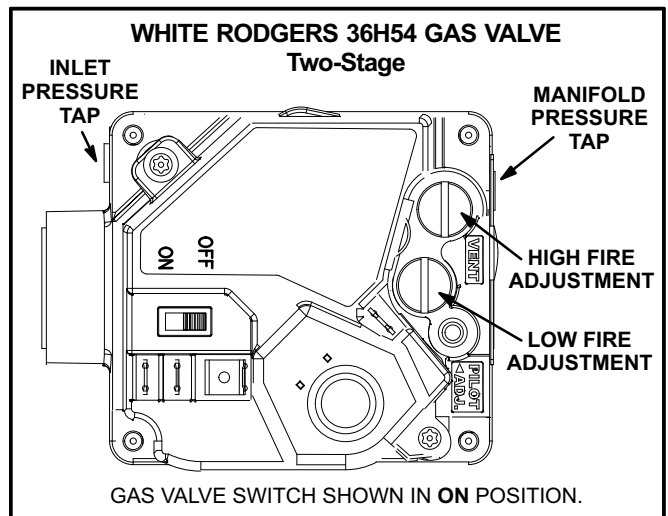
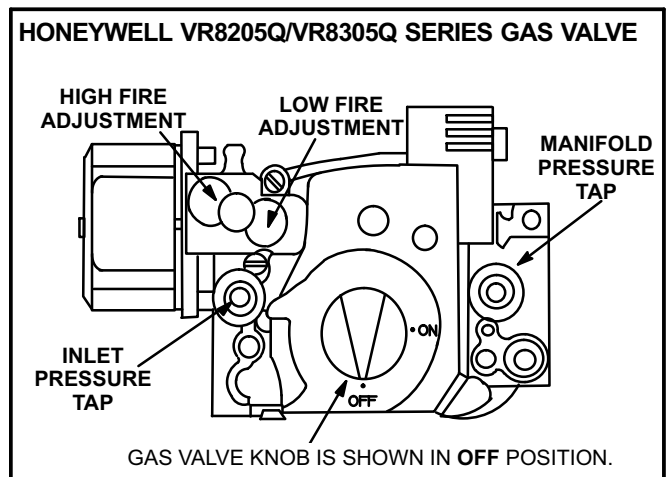

FIGURE 19
FIGURE 20
Gas Valve Operation for Honeywell VR8205Q/VR8305Q and White Rodgers 36H54 (figure 19 and 20)
- 5- Turn gas valve switch to **OFF**. See figure 19. On Honeywell VR8305Q gas valves, turn the knob on the gas valve clockwise  to **"OFF"**. Do not force. See figure 20.
- 6- Wait five (5) minutes to clear out any gas. If you then smell gas, **STOP!** Immediately call your gas supplier from a neighbor's phone. Follow the gas supplier's instructions. If you do not smell gas, go to the next step.
- 7- Turn gas valve switch to **ON**. See figure 19. On Honeywell VR8305Q gas valves, turn the knob on the gas valve counterclockwise  to **"ON"**. Do not force. See figure 20.